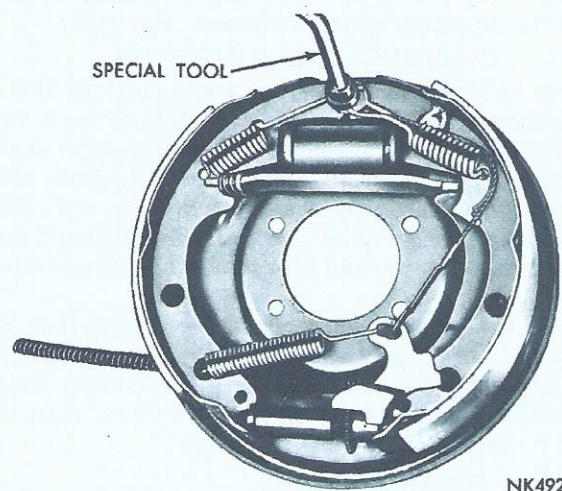

Fig. 7—Removing or Installing Brake Shoe Return Springs (rear)
(1) With the vehicle elevated on a hoist, jack or suitable stand, remove the rear wheel, and the drum retaining clips. Remove the drum.
(2) Using Tool C-3785 remove the brake shoe return springs (Fig. 7).